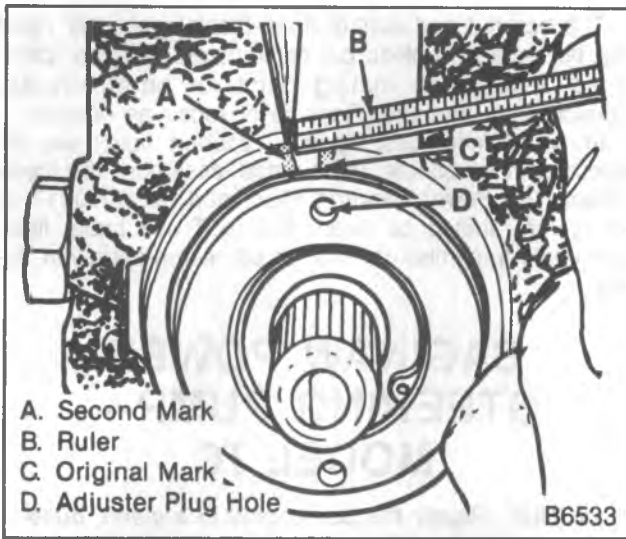

Figure 17—Remarking the Housing
- Measure back (to the left) 13 mm (1/2-inch) and re-mark the housing (figure 17).